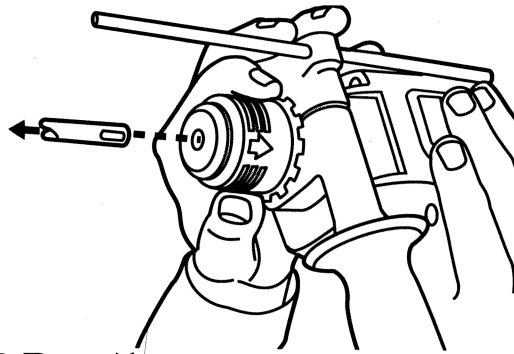

Figure 3
3. To release bit, pull front end of chuck back (Figure 3) and pull bit out.